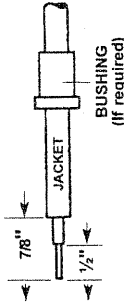
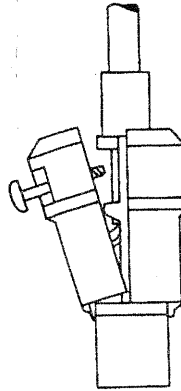

Fig. 2
Fig. 3
- Cut and strip each conductor as shown in Fig. 2. For 16 AWG and 1.5 mm2 wire, slide bushing up cord as shown in Fig. 2. For 16 AWG and 1.5 mm2 wire, slide bushing up cord as shown in Fig. 2. For 16 AWG and 1.5 mm2 wire, slide bushing up cord as shown in Fig. 2. For 16 AWG and 1.5 mm2 wire, slide bushing up cord as shown in Fig. 2.
- Connect grounding conductor (green or green/yellow) to terminal with green hex head screw (marked)  to terminal marked (L).
- Polarized 250 volt — Connect neutral or unswitched conductor (white or blue) to terminal marked (N). Connect line (black or brown) to terminal marked (L).
- Assemble the device as follows (See Fig. 3):